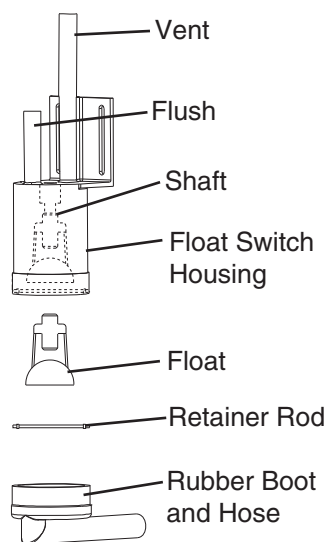

Fig. 3
- 4) Disconnect the vent tube and the flush tube from the top of the float switch, then remove the float switch assembly and remove the float switch assembly and remove the rubber boot from the bottom of the float switch assembly. See Fig. 3.